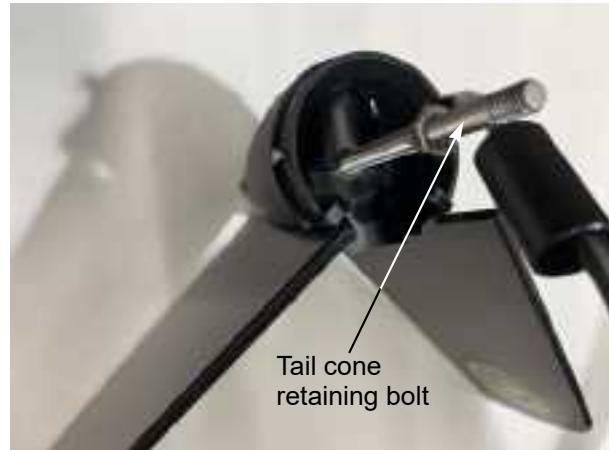

Figure 4-3: *Tail Cone Removed from the Towfish Housing*
5. Set the tail cone aside, and then remove the tail cone retaining bolt which is shown in Figure 4-3.